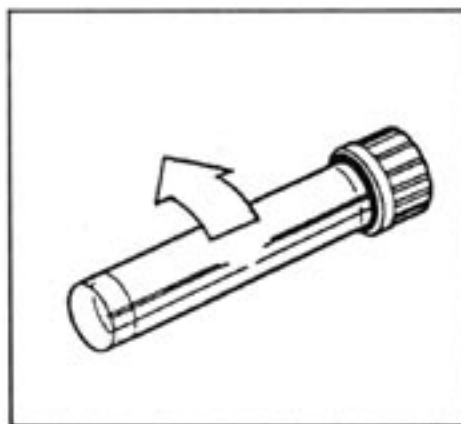

Figure 3
4. Place the hybridization bottle on a flat surface and roll gently in the direction opposite to that used to roll up the membrane/mesh. This will cause the membrane/mesh to uncoil and adhere to the inside wall of the bottle (see Figure 3). **TECH TIP: Examine to make sure there are no bubbles between the mesh and the wall of the bottle. If there are bubbles, they can usually be removed by prodding with a 10ml pipette. If bubbles persist, membrane must be removed and re-rolled.**